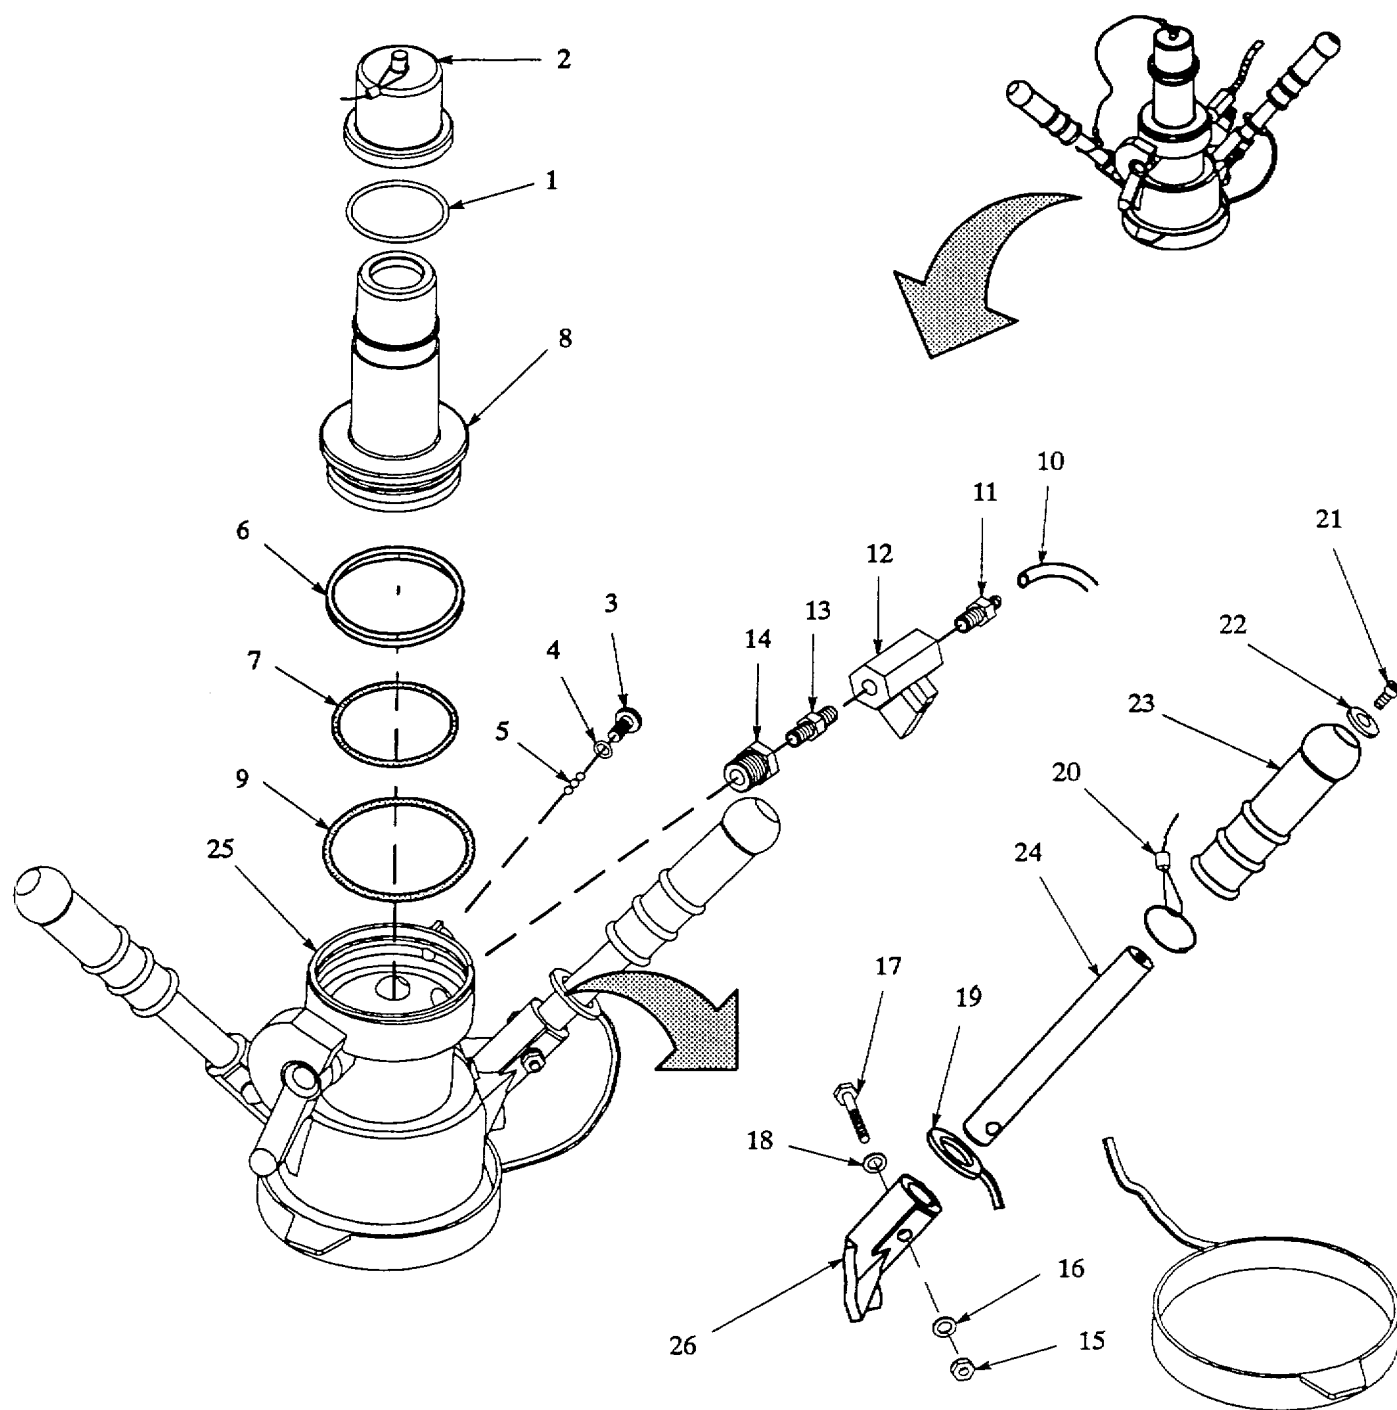

Figure 4-5. Recirculation Nozzle Assembly.
c. Inspection. Refer to figure 4-5.
- (1) Inspect inlet adapter (8) for cracks. Check for scratches and abrasion at all sealing surfaces. Push in on check valve mounted inside dust cap end of adapter. Valve should move off seat without sticking and seat against adapter end when released.
- (2) Inspect body (25) for cracks, corrosion and damaged or missing parts.
- (3) Inspect ball valve (12) for damaged or missing control handle. Valve should operate smoothly without sticking or jamming.
- (4) Inspect collar (26) for cracks and corrosion.
e. Assembly. Refer to figure 4-5.
- (1) Push grip (23) onto handle (24).
- (2) Install flat washer (22) and self locking socket screw (21) in grip (23).
- (3) Remove handle (24) from vise.
- (4) Slide cap (19) and wire ring (20) onto handle (24).
- (5) Position handle (24) in collar (26) and install flat washer (18), screw (17), flat washer (16) and self locking nut (15).
- (6) Repeat steps (1), (2), (4) and (5) for other handle.